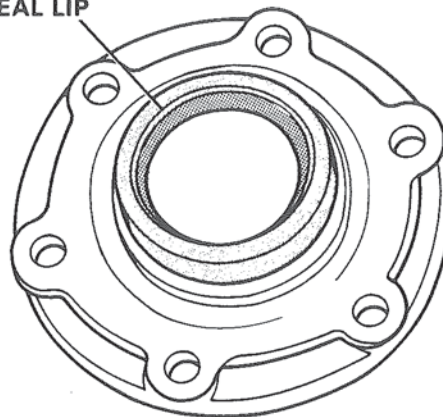

Figure 79. Installing Pump Oil Seal.
2. Place pump housing squarely on arbor press table. Apply a suitable sealant to the outside diameter of seal before installing squarely into bore of housing with seal lip positioned as in Figure 79. Caution should be observed to insure that too much sealant is not used, that any excess is wiped away after the seal is installed, and that the sealant does not get on the sealing element.